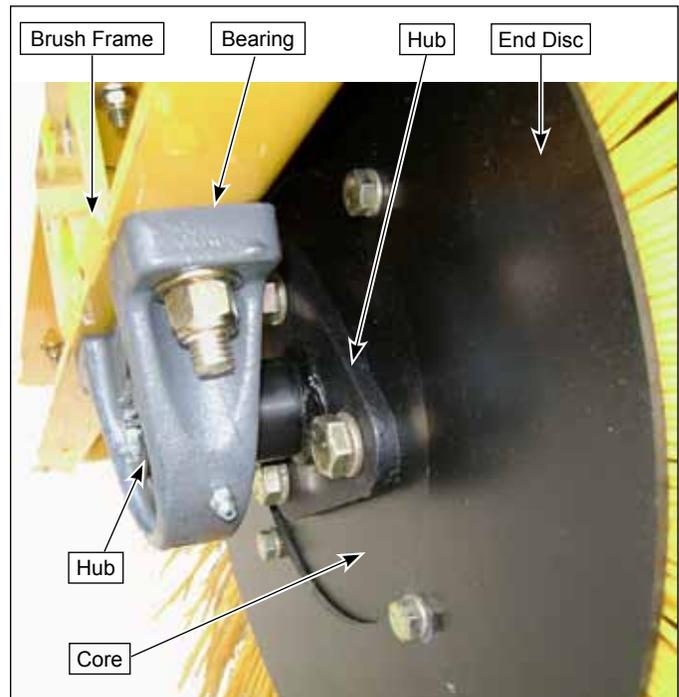

Figure 2
See Figure 2.
4. Install end disc on core or core extension with original hardware. See Figures 2 or 4.
5. Install splined hub on core with original hardware. See Figure 2.